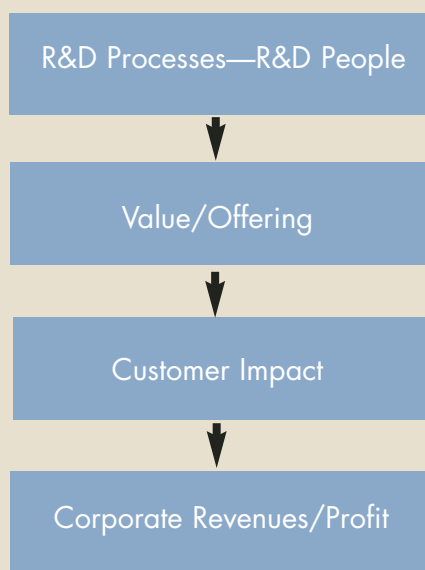

Figure 1. R&D performance metrics must be aligned with strategic objectives of both the parent organization and the customer.
- Be aligned with strategic objectives of both the parent organization and the customer, in Amway's case, individual consumers. This alignment is depicted in Figure 1.